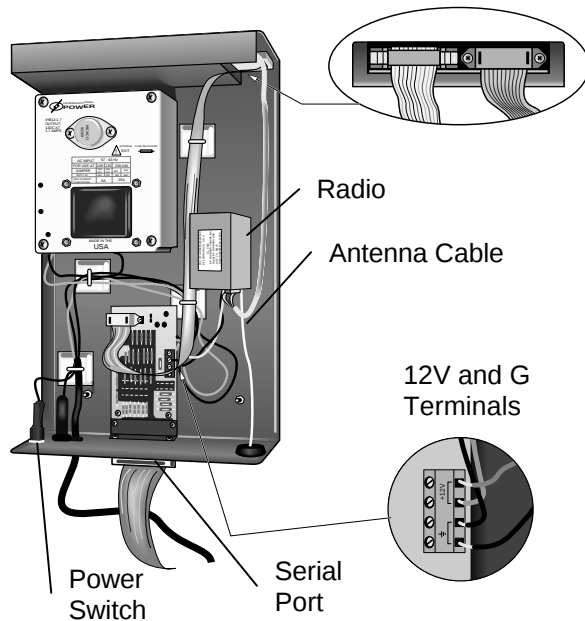

FIGURE 3.3-6. RF232 Base Station Installation
- 2. With the power cord disconnected, remove the four screws that attach the RF232 lid. Remove the lid, and install the RF200 transceiver as shown in Figure 3.3-6. Connect the red wire to the "12 V" terminal, and the black wire to the "⏏" terminal inside the RF232. Connect the multi-colored ribbon cable to the RF modem; make sure that the keyway is properly aligned.